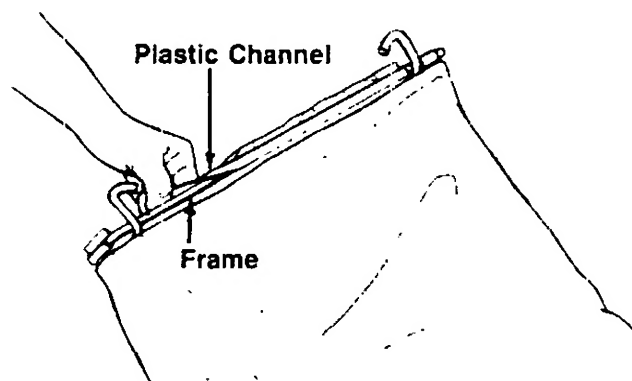

FIGURE 13.
4. Secure front of bag to frame by working the plastic channels on bag over frame. See figure 13.